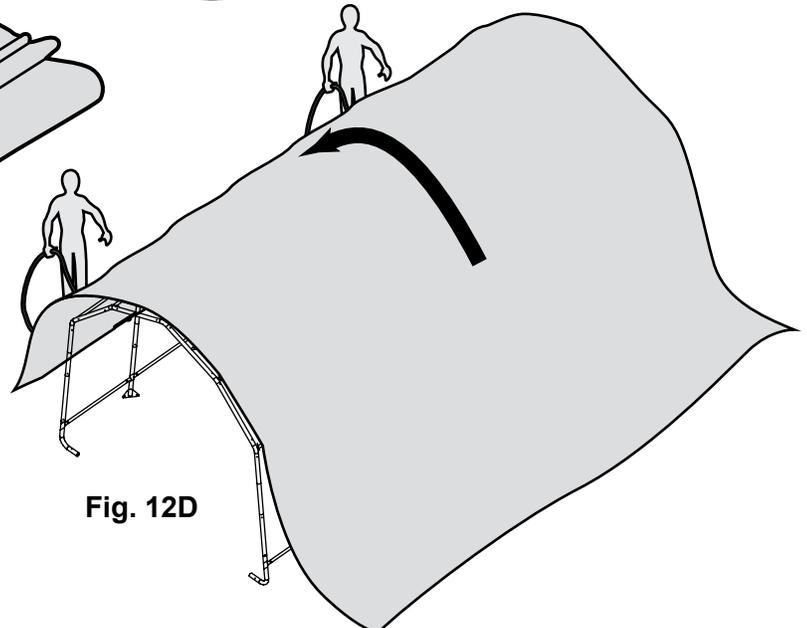

Fig. 12D
4. Move to the other side of the frame and pull the cover over the frame with the rope. This may require two or more people. Fig. 12D